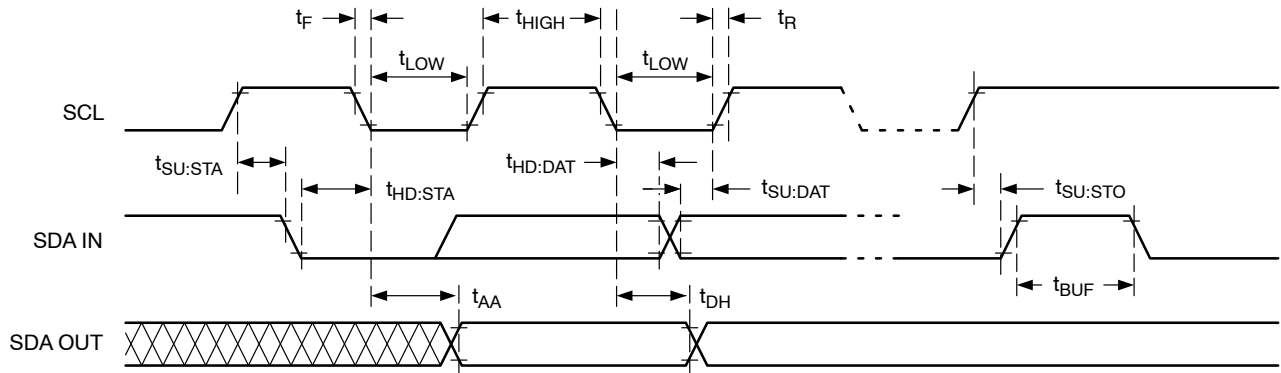

**Figure 3. Slave Address Bits**
The Master addresses a Slave by creating a START condition and then broadcasting an 8-bit Slave address. For the NV24C32LV, the first four bits of the Slave address are set to 1010 (Ah); the next three bits, A2, A1 and A0, must match the logic state of the similarly named input pins. The R/W bit tells the Slave whether the Master intends to read (1) or write (0) data (Figure 3).